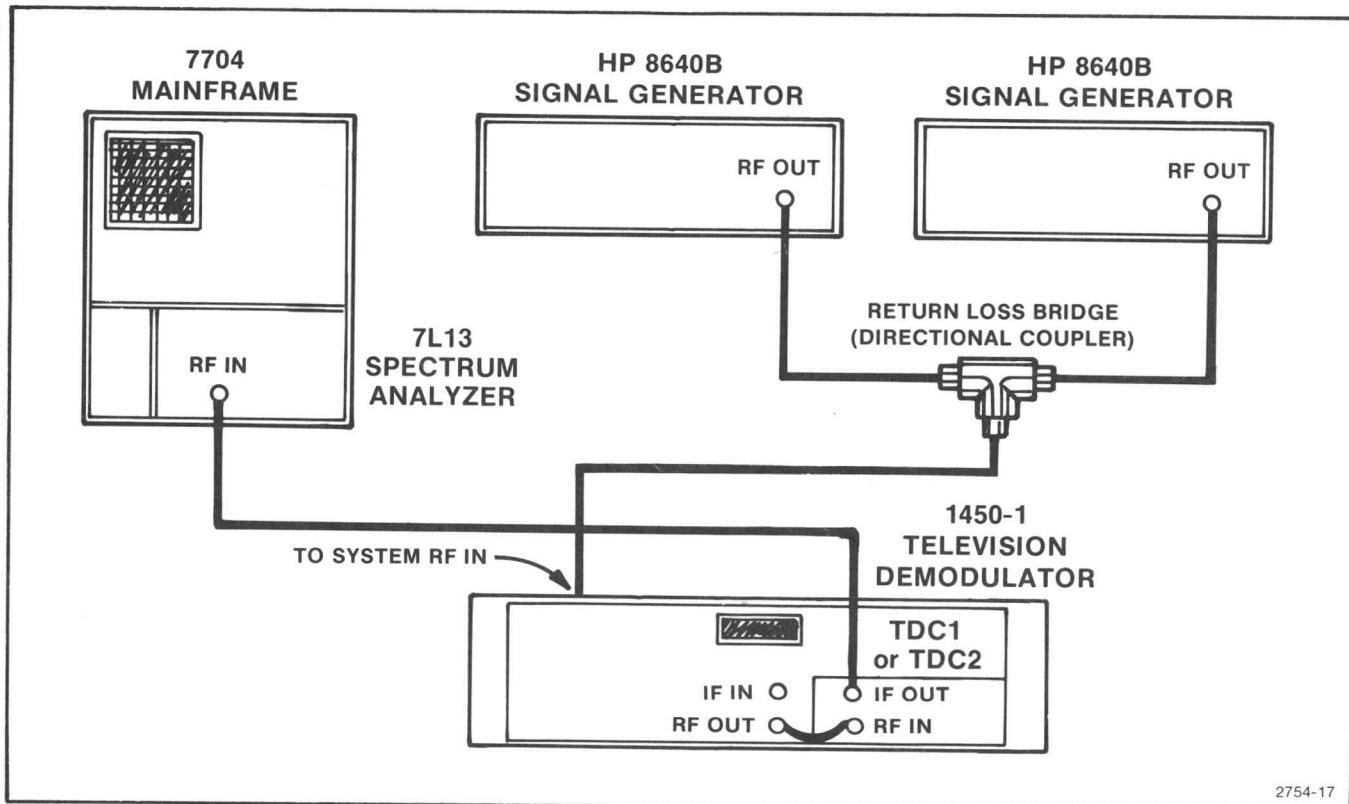

Fig. 4-6. Test Setup for Measuring 3rd Order Input Intercept Point.
- a. Connect the test equipment as shown in Fig. 4-6, and tune the down converter to a specific channel. Set the frequency of the generators 1 MHz apart at the center of the channel bandpass. For example, one generator would be set at 194.5 MHz and the second at 195.5 MHz for Channel 10. See Table 4-2 for channel limits.